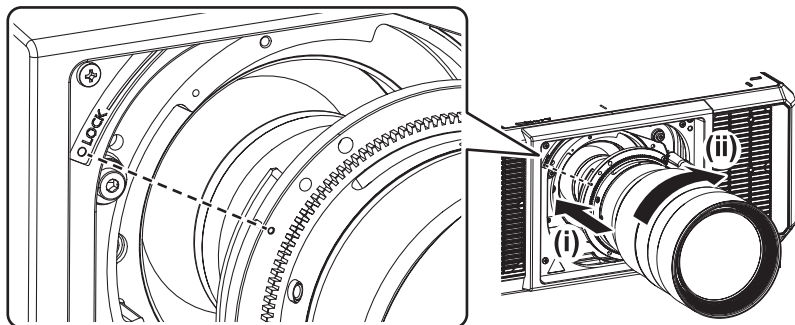

Fig 3
- 3) Insert the projection lens while aligning the marker (orange) on the lens with the marker on the projector (○ to the left of “LOCK”), and turn it clockwise (Fig 3).